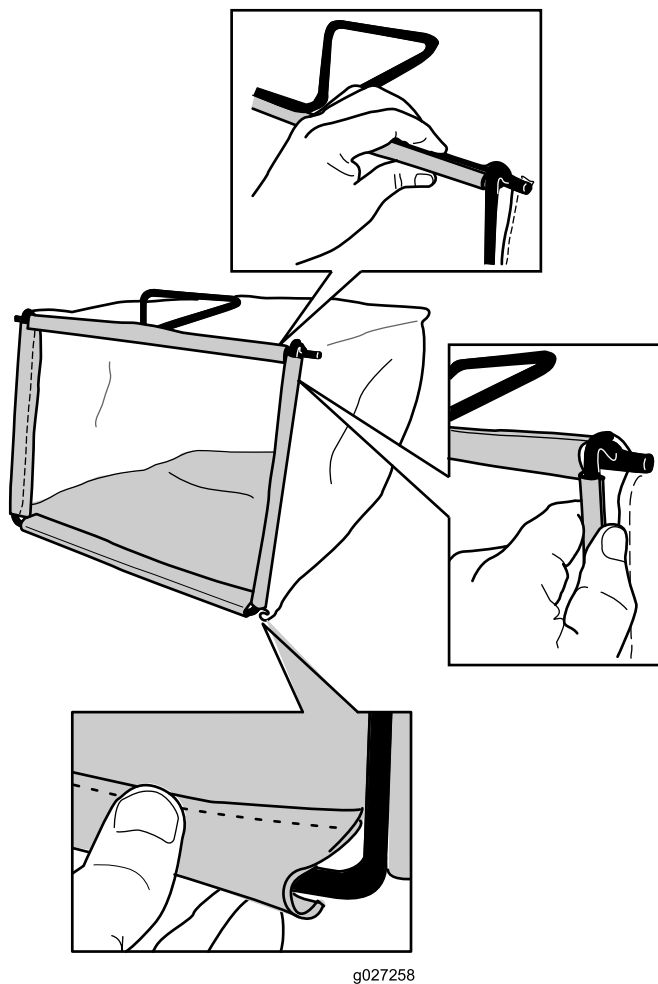

Figure 10
- Hook the bottom channel of the bag onto the bottom of the frame (Figure 10).
- Hook the top and side channels of the bag onto the top and sides of the frame, respectively (Figure 10).